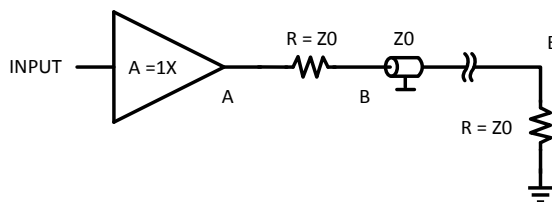
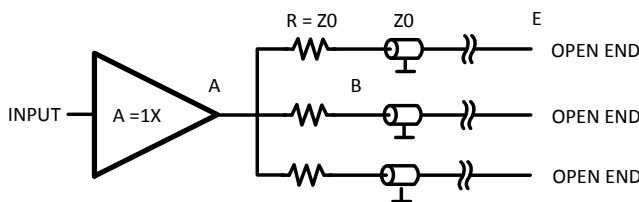
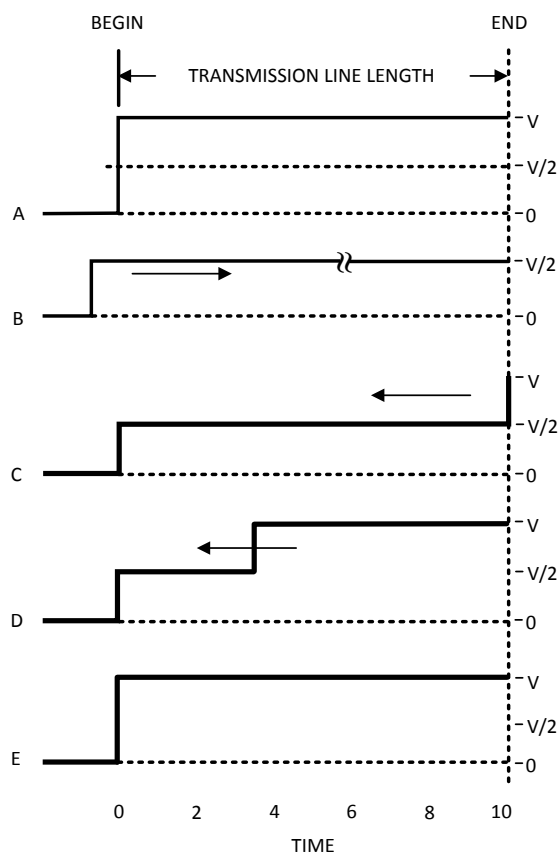

Figure 36.
Figure 38.
Figure 41.
- Use one buffer to drive one transmission line (see Figure 36)
- Use one buffer to drive several transmission lines each driving a different receiver. (see Figure 38)
In most cases, it is unrealistic to think that we can place a driver or buffer so close to the load that we don't need a transmission line to transport the signal. The pcb trace length between a driver and the load may affect operation depending upon the operating frequency. Sometimes it is possible to do measurements by connecting the DUT directly to the analyzer. As frequencies become higher the short lines from the DUT to the analyzer become long lines. When this happens there is a need to use transmission lines. The next point to examine is what happens when the load is connected to the transmission line. When driving a load, it is important to match the line and load impedance, otherwise reflections will occur and this phenomena will distort the signal. If a transient is applied at $T = 0$ (Figure 41, trace A) the resultant waveform may be observed at the start point of the transmission line. At this point (begin) on the transmission line the voltage increases to (V) and the wave front travels along the transmission line and arrives at the load at $T = 10$. At any point across along the line $I = V/Z_0$, where Z_0 is the impedance of the transmission line. For an applied transient of 2V with $Z_0 = 50\Omega$ the current from the buffer output stage is 40mA. Many vintage opamps cannot deliver this level of current because of an output current limitation of about 20mA or even less. At $T = 10$ the wave front arrives at the load. Since the load is perfectly matched to the transmission line all of the current traveling across the line will be absorbed and there will be no reflections. In this case source and load voltages are exactly the same. When the load and the transmission line have unequal values of impedance a different situation results. Remember there is another basic which says that energy cannot be lost. The power in the transmission line is $P = V^2/R$. In our example the total power is $2^2/50 = 80mW$. Assume a load of 75Ω. In that case a power of 80mW arrives at the 75Ω load and causes a voltage of the proper amplitude to maintain the incoming power.
Many applications, such as video, use a series resistance between the driver and the transmission line (see Figure 36). In this case the transmission line is terminated with the characteristic impedance at both ends of the line. See Figure 41 trace B. The voltage traveling through the transmission line is half the voltage seen at the output of the buffer, because the series resistor in combination with Z_0 forms a two-to-one voltage divider. The result is a loss of 6dB. For video applications, amplifier gain is set to 2 in order to realize an overall gain of 1. Many operational amplifiers have a relatively flat frequency response when set to a gain of two compared to unity gain. In trace B it is seen that, if the voltage reaches the end of the transmission line, the line is perfectly matched and no reflections will occur. The end point voltage stays at half the output voltage of the opamp or buffer.
Another way to reach several points via a transmission line is to start several lines from one buffer output (see Figure 38). This is possible only if the output can deliver the needed current into the sum of all transmission lines. As can be seen in this figure there is a series termination used at the beginning of the transmission line and the end of the line has no termination. This means that only the signal at the endpoint is usable because at all other points the reflected signal will cause distortion over the line. Only at the endpoint will the measured signal be the same as at the startpoint. Referring to Figure 41 trace C, the signal at the beginning of the line has a value of $V/2$ and at $T = 0$ this voltage starts traveling towards the end of the transmission line. Once at the endpoint the line has no termination and 100% reflection will occur. At $T = 10$ the reflection causes the signal to jump to $2V$ and to start traveling back along the line to the buffer (see Figure 41 trace D). Once the wavefront reaches the series termination resistor, provided the termination value is Z_0 , the wavefront undergoes total absorption by the termination. This is only true if the output impedance of the buffer/driver is low in comparison to the characteristic impedance Z_0 . At this moment the voltage in the whole transmission line has the nominal value of $2V$ (see Figure 41 trace E). If the three transmission lines each have a different length the particular point in time at which the voltage at the series termination resistor jumps to $2V$ is different for each case. However, this transient is not transferred to the other lines because the output of the buffer is low and this transient is highly attenuated by the combination of the termination resistor and the output impedance of the buffer. A simple calculation illustrates the point. Assume that the output impedance is 5Ω . For the frequency of interest the attenuation is $V_B/V_A = 55/5 = 11$, where A and B are the points in Figure 38. In this case the voltage caused by the reflection is $2/11 = 0.18V$. This voltage is transferred to the remaining transmission lines in sequence and following the same rules as before this voltage is seen at the end points of those lines. The lower the output resistance the higher the decoupling between the different lines. Furthermore one can see that at the endpoint of these transmission lines there is a normal transient equal to the original transient at the beginning point. However at all other points of the transmission line there is a step voltage at different distances from the startpoint depending at what point this is measured (see trace D).